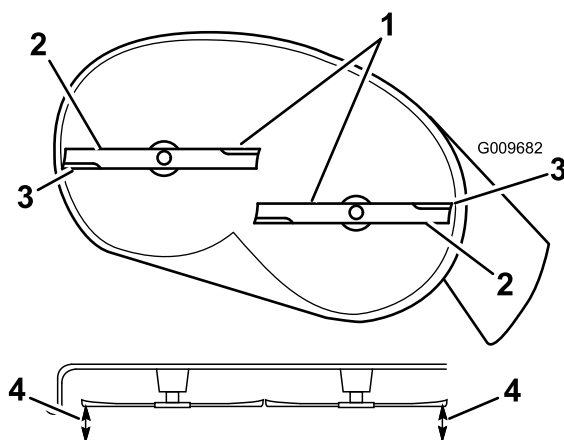

Figure 47
4. Carefully rotate the blades so that they are all side to side (Figure 47).
5. Measure between the outside cutting edges and the flat surface (Figure 47). If both measurements are not within 3/16 inch (5 mm), an adjustment is required; continue with this procedure.